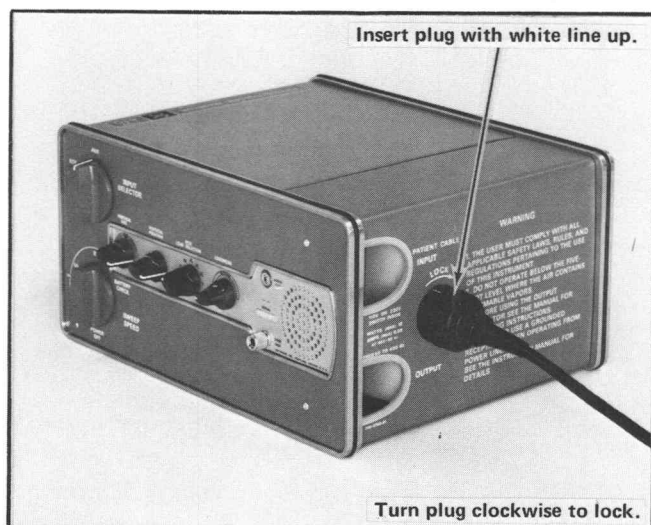

Fig. 2-14. Connecting the Power Cord to the Type 410.
2. Connect the power cord to the power outlet and to the Battery Pack as shown in Fig. 2-14.